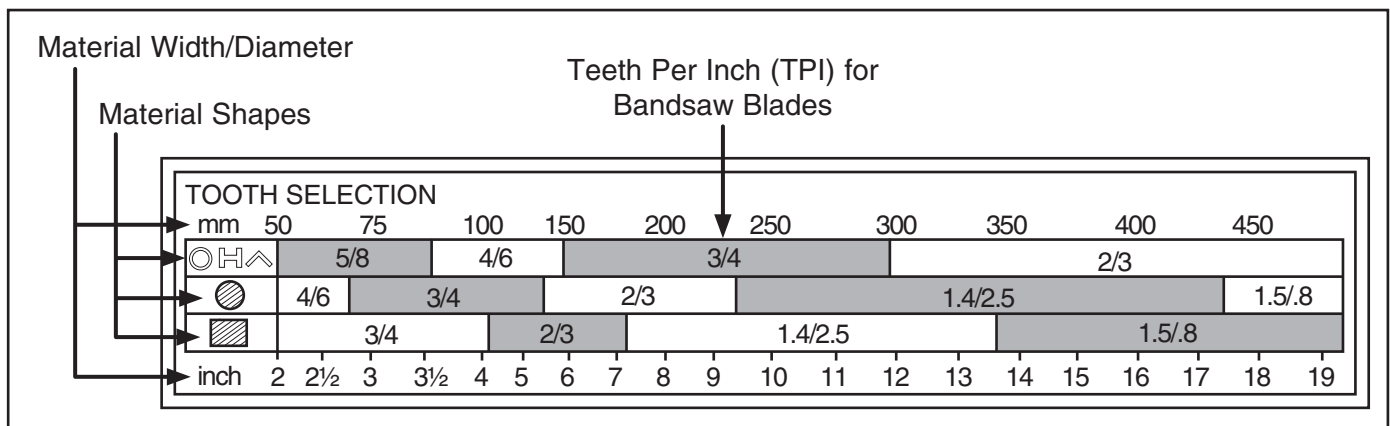

Figure 23. General guidelines for blade selection and speed chart.
2. Refer to "Material Width/Diameter" row of blade selection chart in **Figure 23**, and read across to find workpiece thickness you need to cut.